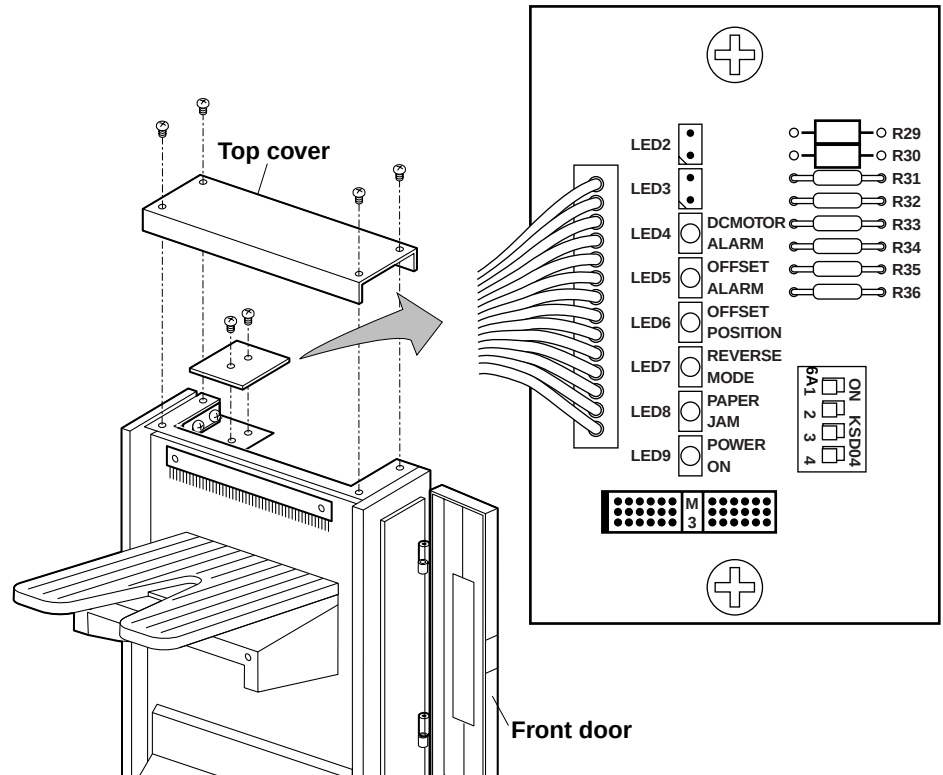

Figure C-3 HCO Diagnostic Board DIP Switch and LED Location
For normal operation, the DIP switches on the board must be set to "0000" (all OFF) and the covers must all be closed. You must cycle the power off then on to reset the DIP switches. Figure C-3 shows how to access the diagnostics board and the location of the DIP switch and LEDs. Table C-5 describes the LEDs function during normal operation.
Step 3 Set DIP switch 1 to off and switch 2 to on (0100) on the diagnostic board (see Figure C-3).